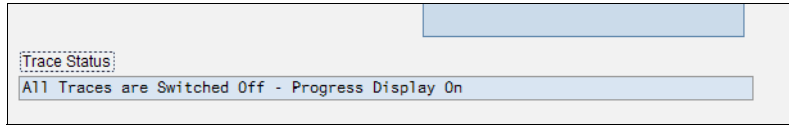

Figure 26-21 Session 2: Deactivate trace: status
4. Change to **Session two** and select **Deactivate the trace** as Figure 26-21 shows.